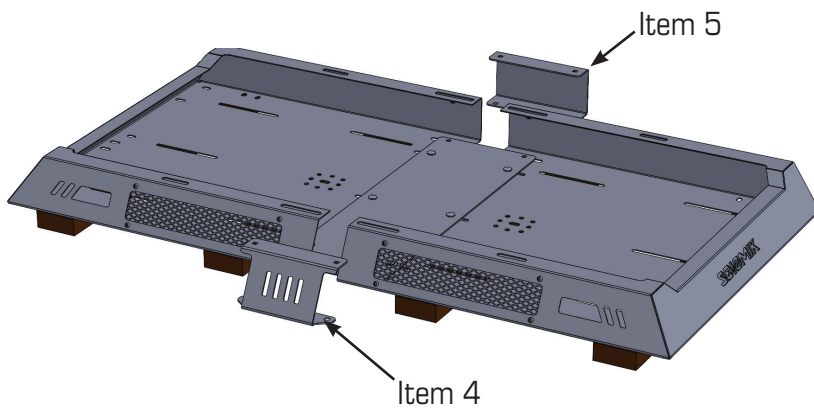

Fig. 5
4. Slide the Connecting Bracket Front & Connecting Bracket Rear (Items 4 & 5) over the Basket Components as shown in Fig 5. Align the holes to the slots in the Basket Components and secure with Carriage Bolts (Item 10) and Nuts (Item 9) as shown in Fig. 6. Do not fully tighten hardware yet.